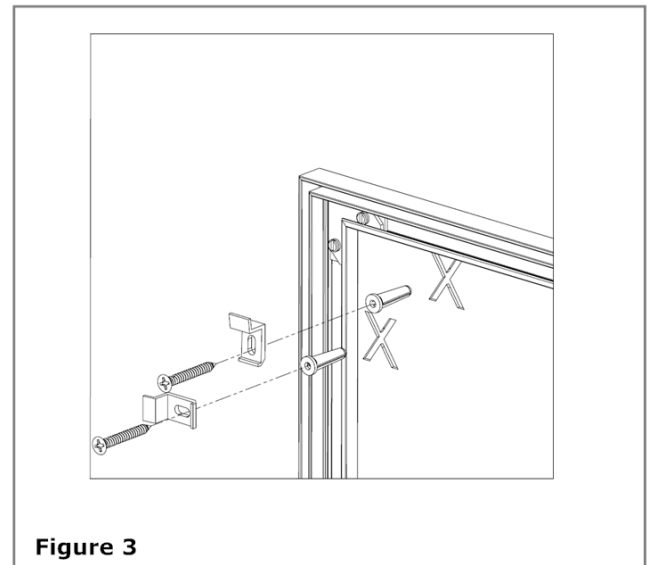

Figure 3
5. Identify the desired location of the frame on the wall and mark the positions of the mounting screws, using supplied mounting z-clips to reference mounting location. See **Figure 3**.